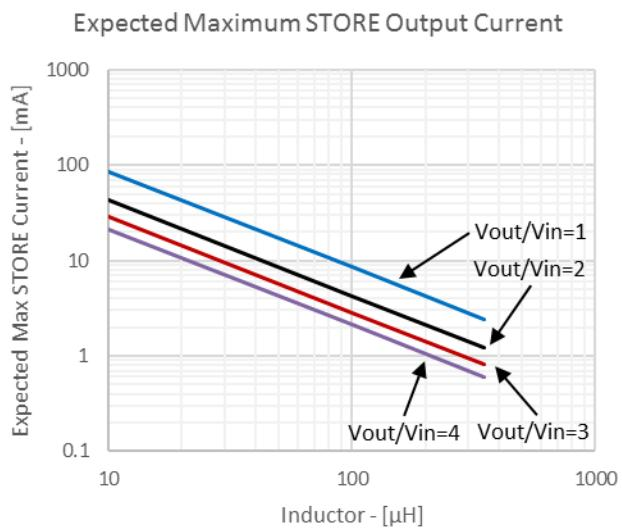

Figure 2.3. Expected Maximum STORE Output Current with 85% Efficiency vs. Inductor Value
2. I_{STORE(MAX)} is provided as the Maximum Average STORE Current by Figure 2.3 Expected Maximum STORE Output Current with 85% Efficiency vs. Inductor Value on page 6 in 2.2.4 Inductor Selection.